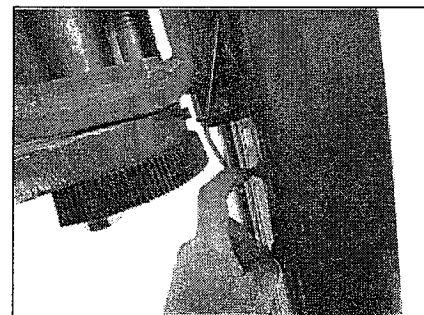

Fig. 29
3. Before lower down the lift every time, please raise the lift a little, then pull the release hook under **each** carriage to unlock (Fig. 29). Remember both side need to be released.